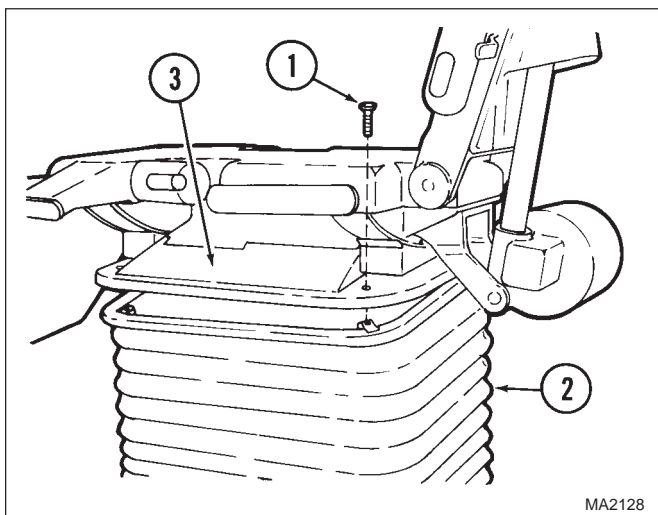

Figure 4-2. Lower Bellows Assembly For Access
- (1) Remove four screws (1, Figure 4-2) and lower bellows assembly (2) from trendelenburg plate (3).